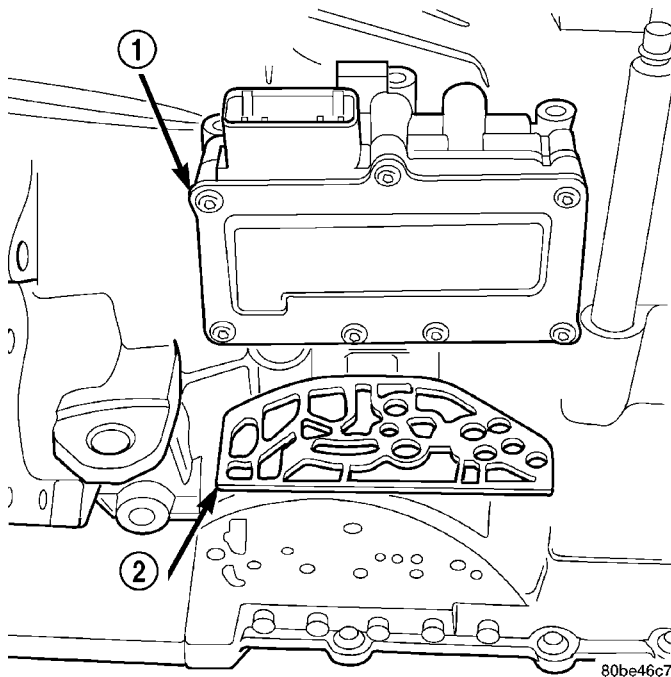

Fig. 157 Solenoid/Pressure Switch Assembly and Gasket
(67) Install oil pan-to-case bolts and torque to 19 N·m (165 in. lbs.).
(68) Install solenoid/pressure switch assembly and gasket to case (Fig. 157).